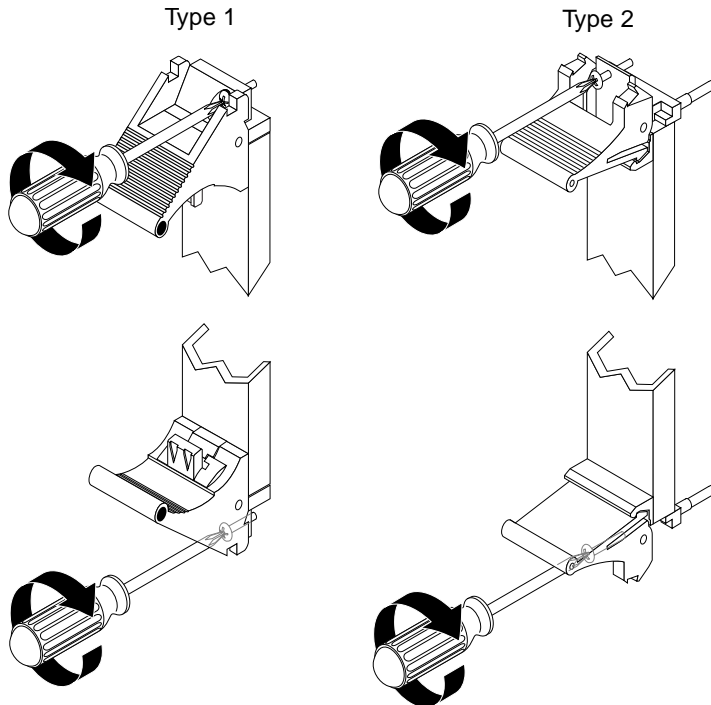

FIGURE 2-12 Tightening the Ejection Lever Captive Screws (Two Types of Levers)
9. Using a No. 0 Phillips screwdriver, tighten the captive screws inside the card's top and bottom ejection levers (FIGURE 2-12).
- 10. Using a No. 0 Phillips screwdriver, tighten the captive screws inside the card's top and bottom ejection levers (FIGURE 2-12).**